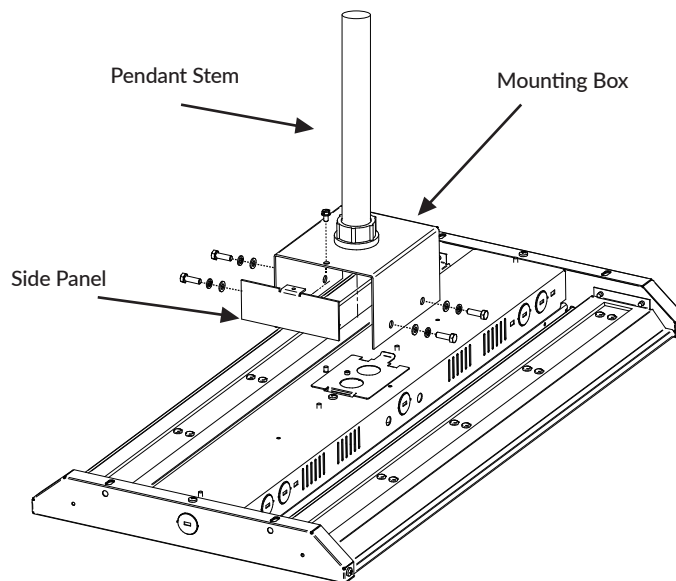

Figure 5
- Install the Mounting Box to Pendant Stem (provided by others) and the fixture housing center, secure them with supplied screws and washers. (Figure 5)